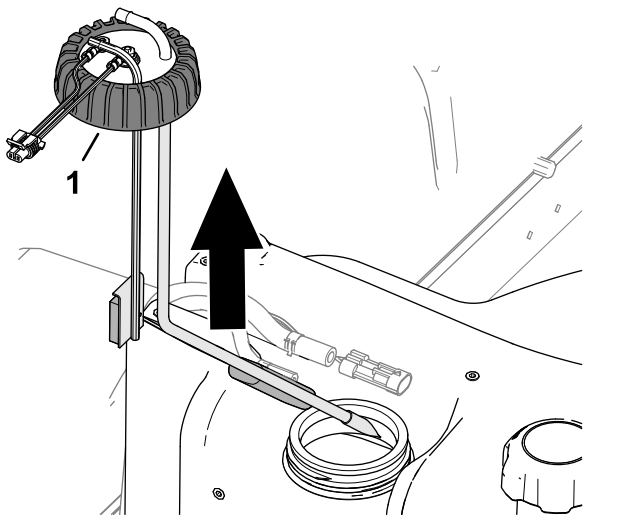

Figure 85
- 5. Loosen the fuel-sender cap (Figure 85).